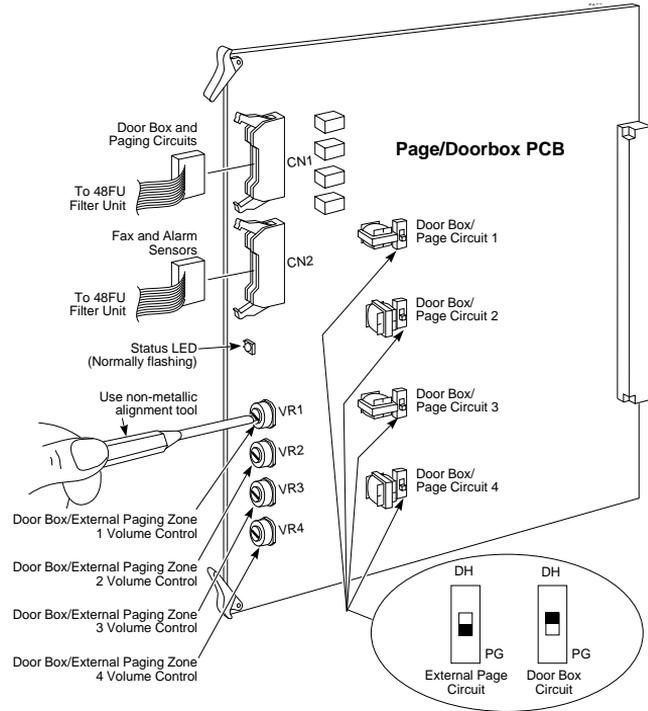
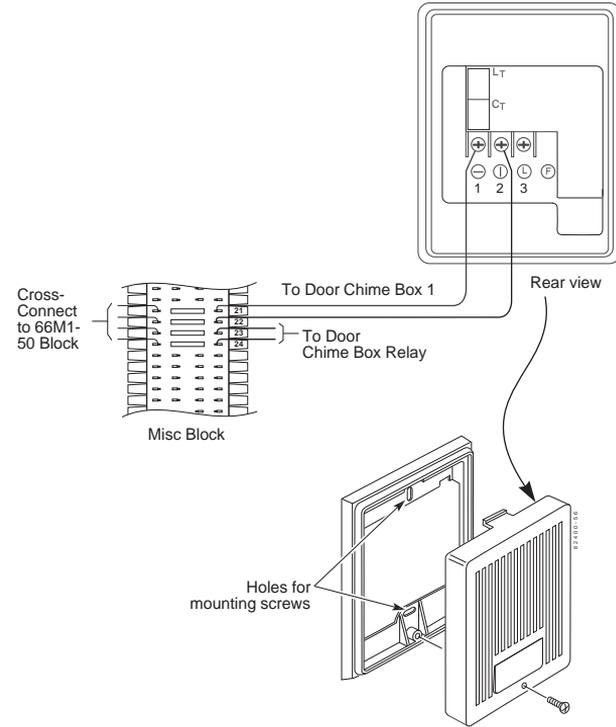

Figure 4-5 SETTING THE 4PGDU FOR A DOOR BOX
Figure 4-6 INSTALLING A DOOR BOX
Installing a Door Box (Figure 4-5 and Figure 4-6)
5. Terminate the other end of the station cable leads to the Door Box according to Figure 4-6. Be sure to maintain the proper polarity.
1. Make sure the switch for the associated Door Box is set to DH (not PG). Refer to Figure 4-5.